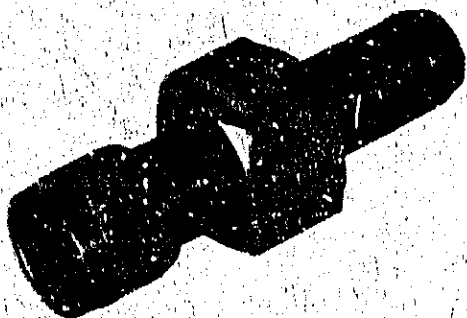

Figure 1. Model 1109B High Pass Filter
2. HP Model 1109B High Pass Filter (Figure 1) is primarily intended for use with HP Model 1104A/1106B Trigger Countdown to eliminate the step pulse display encountered when the Model 1104A/1106B is used in high frequency sampling applications. The Model 1109B may also be used in other 50-ohm system applications where low frequency blocking is desired. Specifications for the Model 1109B High Pass Filter are listed in Table 1.